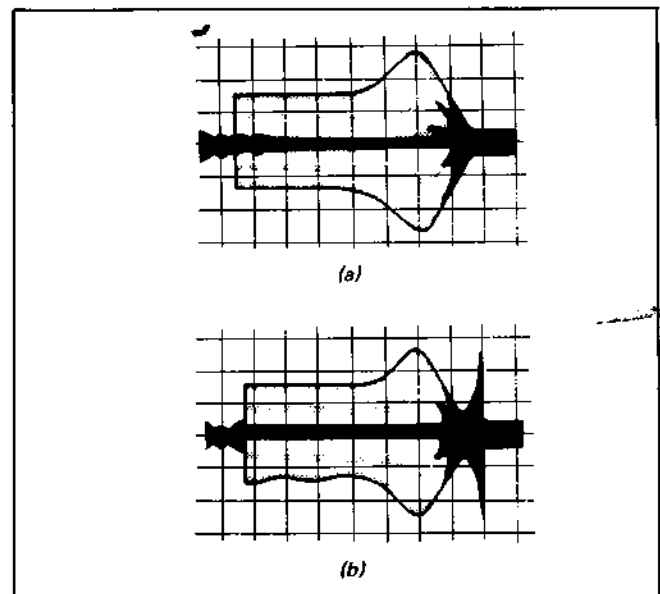

Fig. 4-11.
- 5) At this time, confirm that the exit free waveform is within the range shown in Fig. 4-11 (a) and (b).